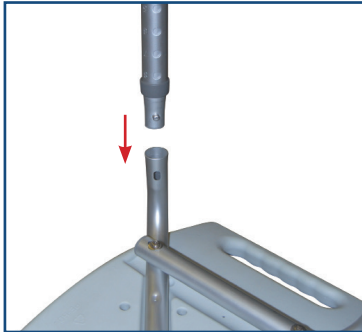

figure 1
3. Insert first leg into the leg receptacle by depressing push pin. When the leg is in place, the brass push pin will extend out and lock the leg in place (Figure 1).